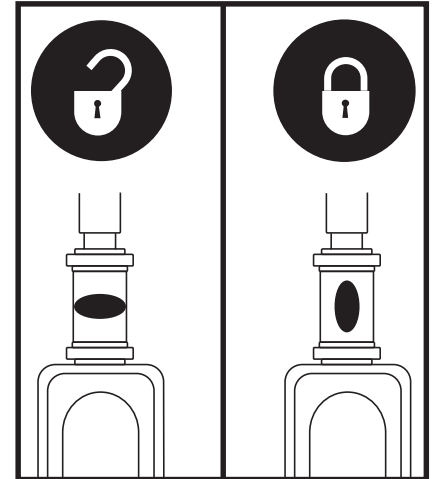

Figure 19. Tiller Lock Knob
1. Remove the key from the key switch and then lock the tiller in the straight ahead position by pushing the tiller lock knob in and turning it clockwise 90°. **See figure 19.** The front wheel must face forward in order to lock the tiller.
6. Unlock the tiller by turning the tiller lock knob 90° counterclockwise. See **figure 19**.